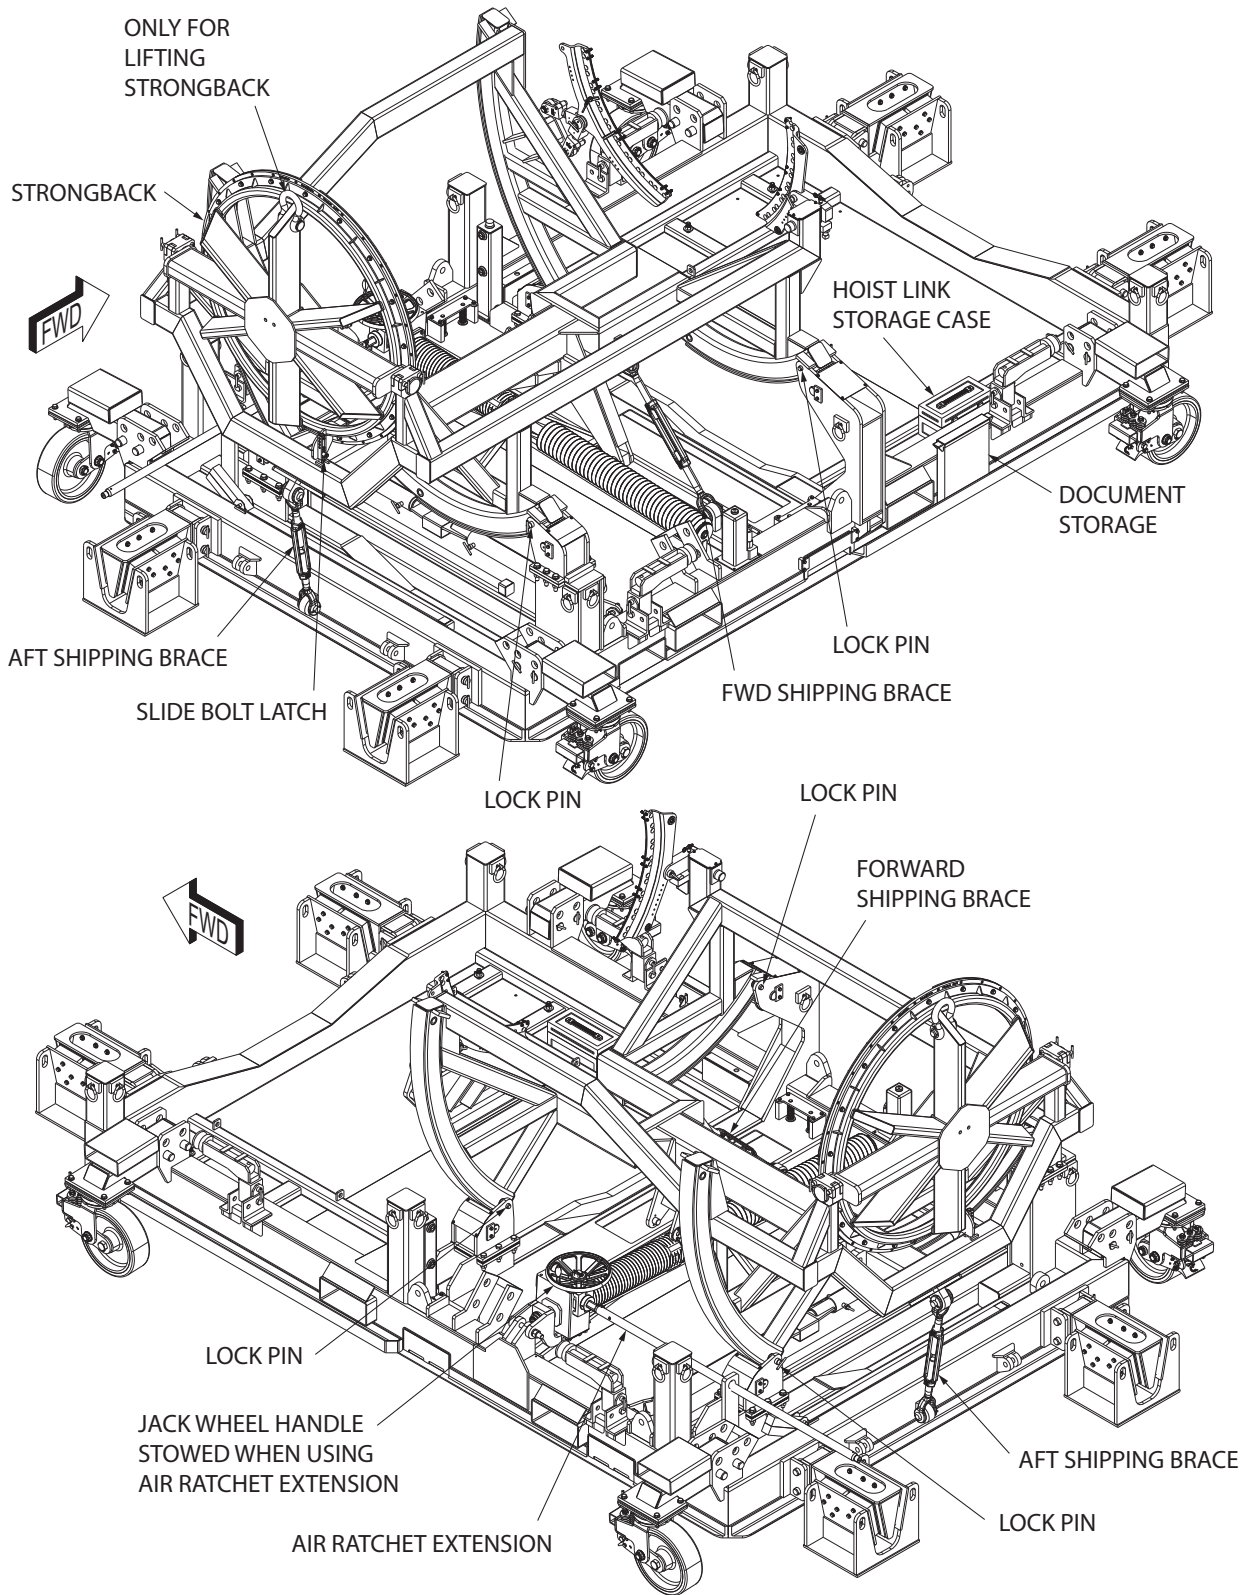

Figure 5.1-2 Stand Shown with Cradle in Upright Position
- 1) Remove four (4) cradle-to-base lock pins (IPB Figure 1 - Item 6) (Figure 5.1-2).
- 2) Loosen and disconnect the FWD and AFT shipping braces (IPB Figure 1 - Item 3) (Figure 5.1-2).
- 4) When rotation cycle is complete, install the four (4) cradle-to-base lock pins. (Figure 5.1-2)